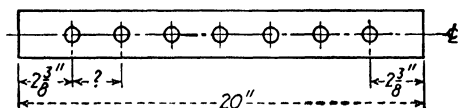

Fig. 297.
14. The strip of metal in Fig. 297 is to have the centers of 7 holes equally spaced. Find the distance between centers to the nearest 64th of an inch.